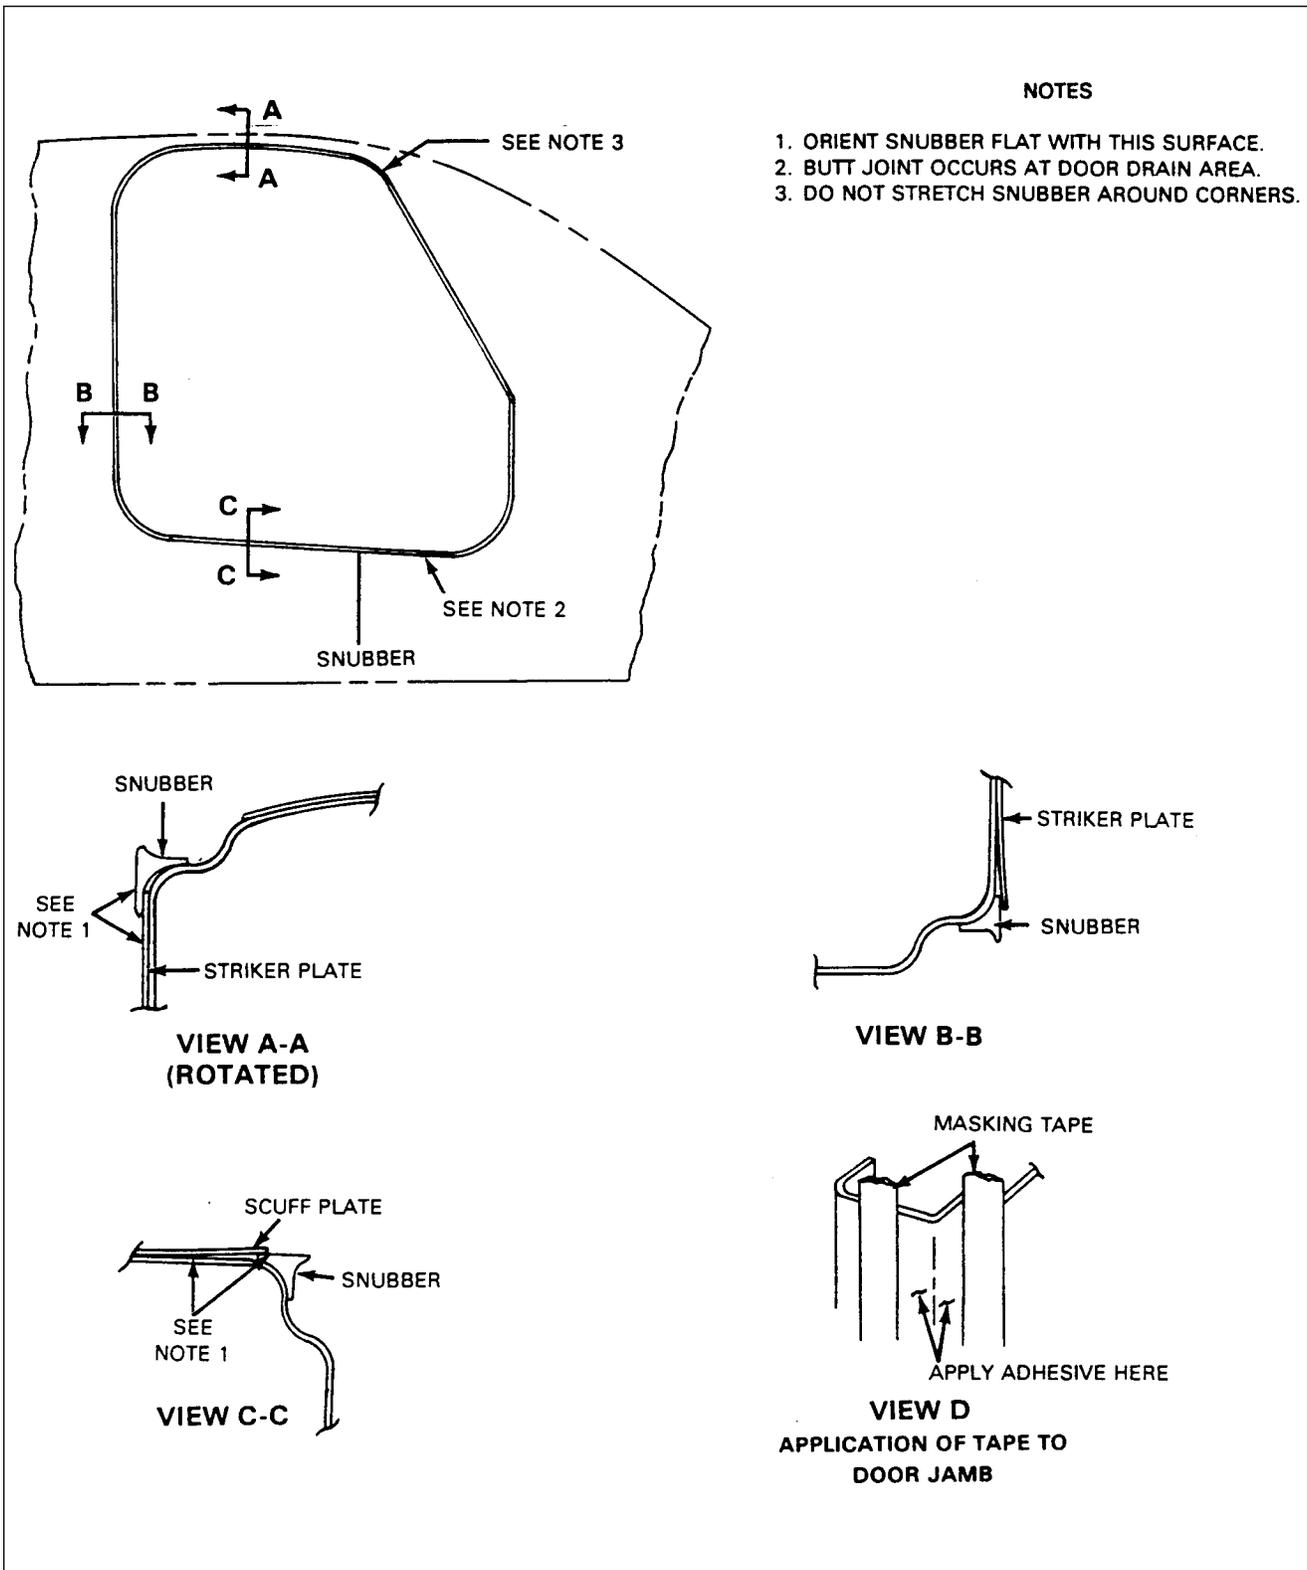

Figure 52-1. Door Snubber Installation
*Make certain leg of snubber goes under striker plate for side latch and over striker plate for upper latch. (figure 52-1)*
*To effect a clean installation, it is recommended that the jamb be masked off as shown in figure 52-1.*
- b. Apply adhesive to door jamb in area shown in figure 52-1, view D and to inside surface of snubber.